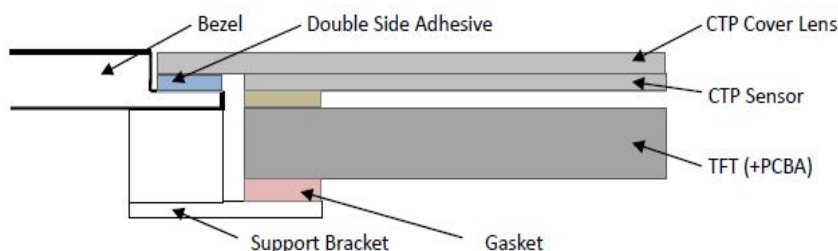

Figure 2
7.2 Surface Mounting (Figure 2)
7.2 嵌入安装 (附图 2)